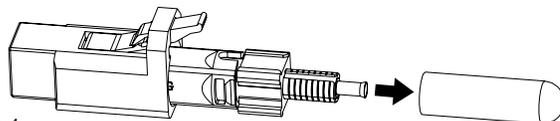

Figure 4-4
**4.3-3** Remove the connector components from the bag. Remove and discard the cap from the rear of the connector (Figure 4-4).